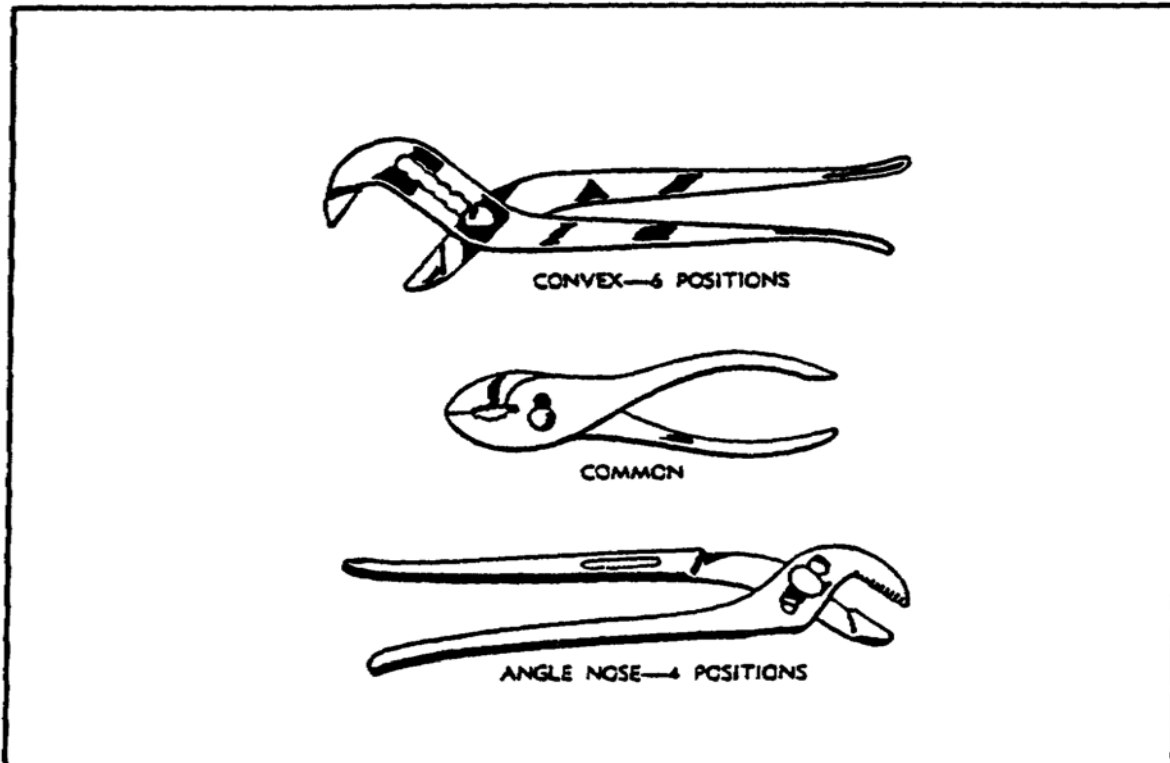
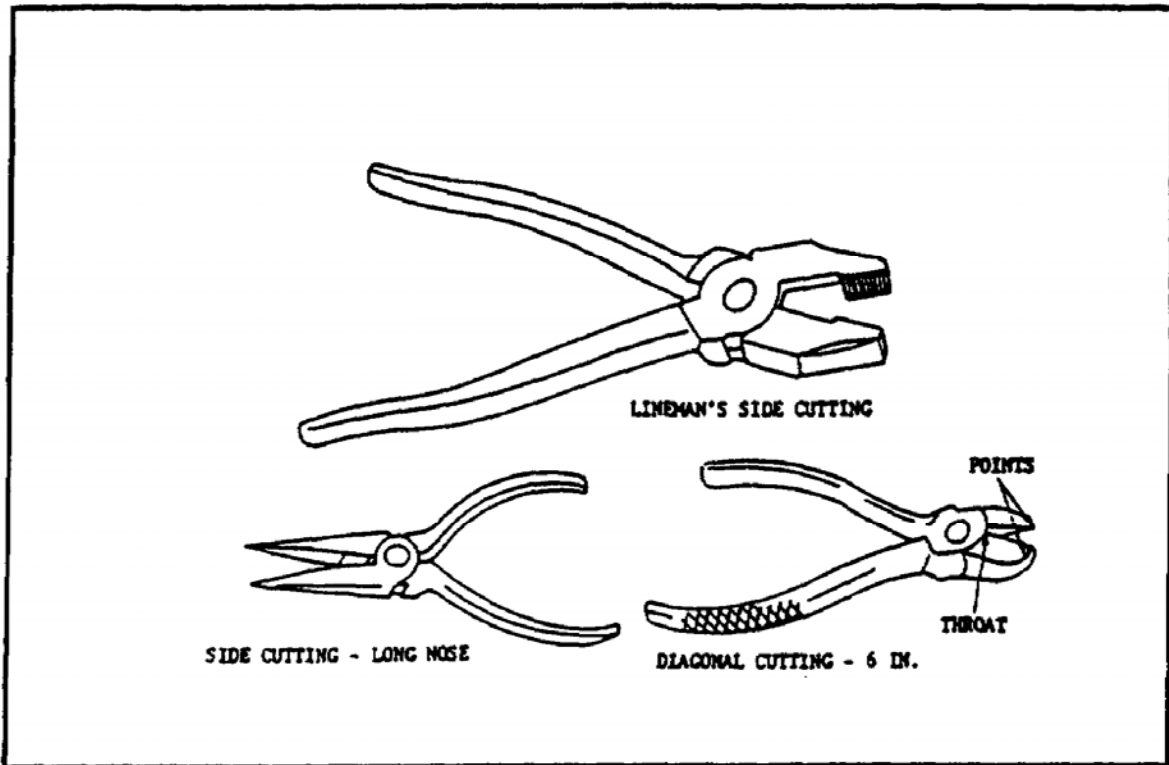

FIGURE 33. SLIP JOINT COMBINATION PLIERS.
FIGURE 34. DIAGONAL AND SIDE CUTTING PLIERS.
(1) *Slip Joint Combination Pliers* (figure 33). Slip joint combination pliers are most commonly used to hold or bend wires, small bars, and a wide variety of miscellaneous items. Some have short cutting edges near the hinge for cutting wire. The slip joint permits adjustment and wider opening of the jaws. The jaws have serrations or teeth for gripping.
(2) *Diagonal Cutting Pliers* (figure 34). Diagonal cutting pliers have short jaws with the cutting edges at a slight angle. They are used for cutting soft wire and stock and for removing cotter pins. They are also used for cutting cotter pins to desired lengths and for spreading the ends after the pin is inserted through a hole.
(3) *Lineman's Side Cutting Pliers* (figure 34). Lineman's side cutting pliers are used for cutting wire and peeling insulation. The flat serrated jaws are also used to twist wire ends together in making splices.
(1) *Pliers.* When using pliers, keep your fingers away from the jaws and cutting edges. Make sure the hinge or joint is tight before using pliers. Insulate handles of pliers when using them in electrical work with several thicknesses of friction tape, rubber tape, or specially manufactured rubber grips. When cutting large material within the capacity of diagonal cutting pliers (figure 34), cut with the throat of the jaws, not with the points. The tendency of misaligning the jaws will be greatly reduced. Once the jaws are misaligned (sprung), it will be impossible to cut fine wire. To preserve the life of slip joint combination pliers (figure 33), do not use them on very hard metal. Hard metal will wear off the teeth and the pliers will lose their grip. Use pliers only for the purpose for which they are intended. Do not try to increase the leverage of their handles by lengthening them with sections of pipe or other extensions.